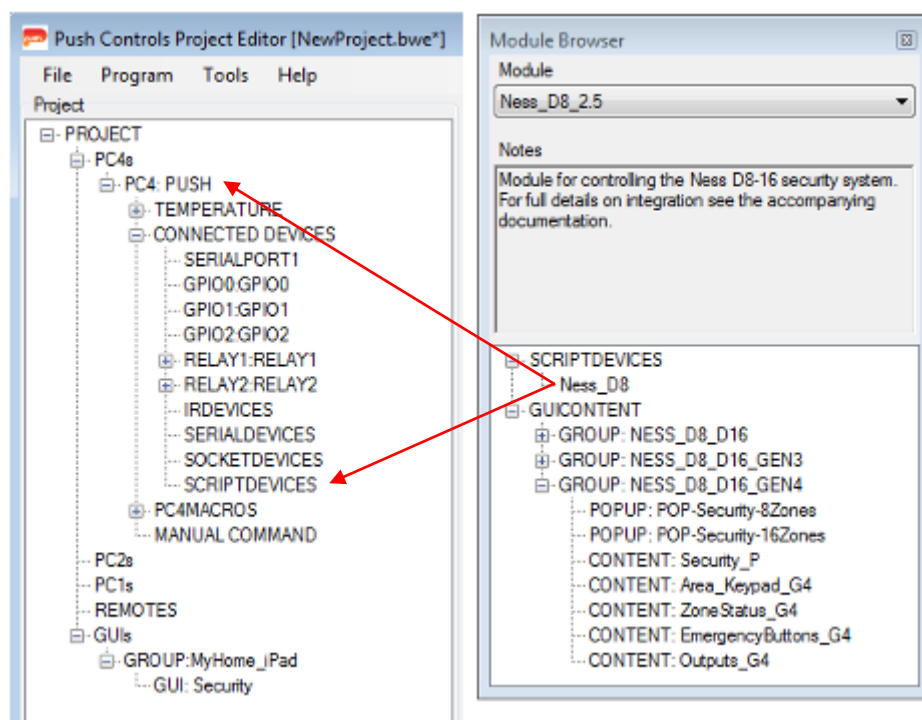

Figure 11 – Dragging and dropping content from the Module Browser window
The selected module will now appear in the module browser window (See Figure 11), where you can see everything that is included in the module.
Each of the elements contained in the module need to be dragged and dropped into their respective positions within the project. The items under the SCRIPTDEVICES category need to be dragged onto the desired PC4/PC1. The GUICONTENT area can include any number of the following items POPUP, CONTENT or SCRIPT and are imported in the following manner *Refer to Figure 11*:
- CONTENT requires an existing page to be dragged in to. To include content you can either drag it onto the page name (see Figure 11) or drag onto an open GUI page. To import whole page content a page needs to be made, which matches the resolution of the page being imported.